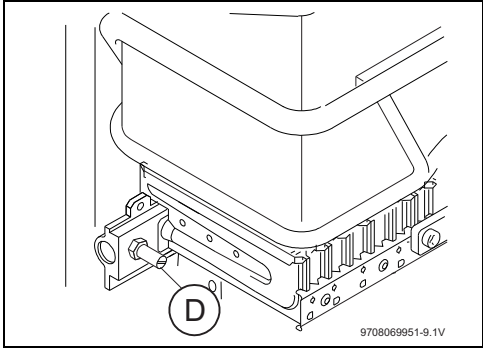

Fig. 10 Burner pressure measurement point
- ▶ Loosen the burner test point captive screw (→ Fig. 10 [D]).